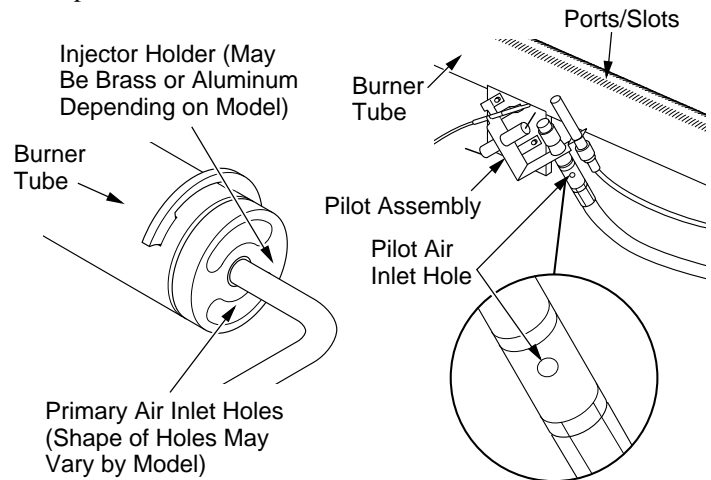

Figure 41 - Injector Holder On Burner Tube **Figure 42 - Pilot Inlet Air Hole**
2. Inspect burner, pilot, and primary air inlet holes on injector holder for dust and dirt (see Figures 41 and 42).